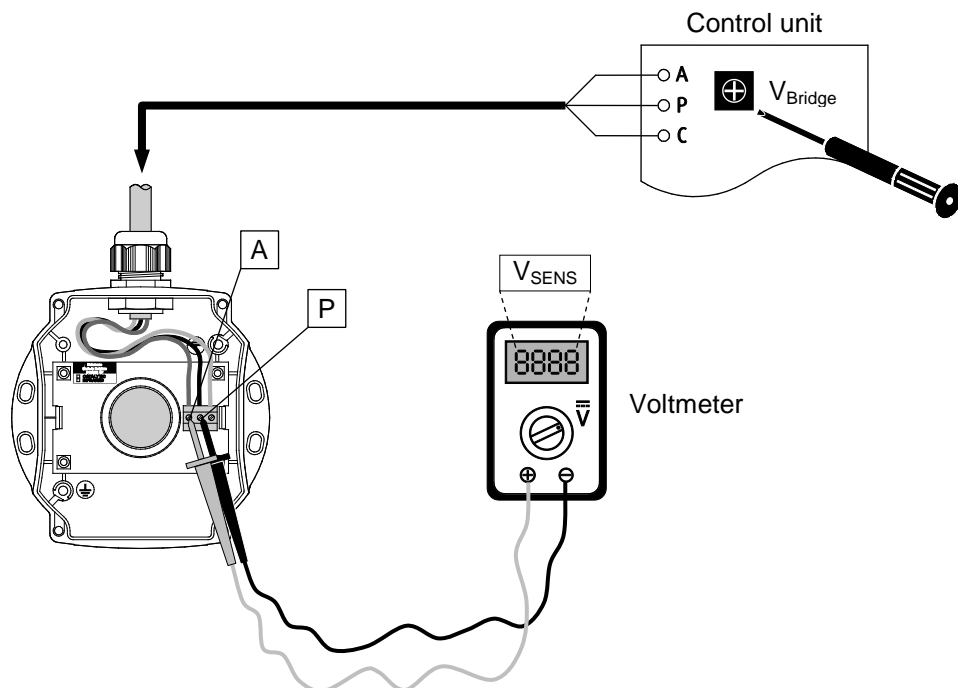

Figure 7: adjusting the D•TEX3F supply voltage
- Measure the sensor voltage across the “A” and “P” terminals of the D•BASE 3F PCB, and adjust the bridge voltage at the associated control unit in order to have the correct sensor voltage, according to the table above, at the detector (see Figure 7 below).